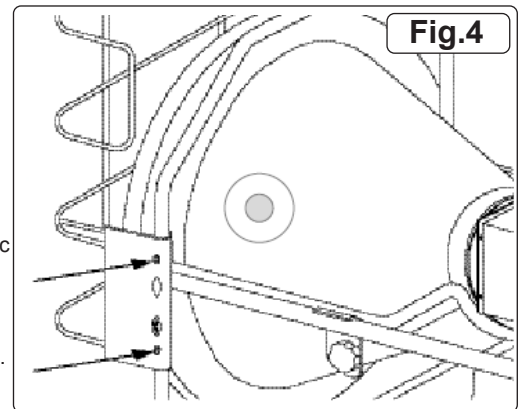

Fig.4
- 4.4. Attach safety guard to front of heater with bolts provided, see fig.4